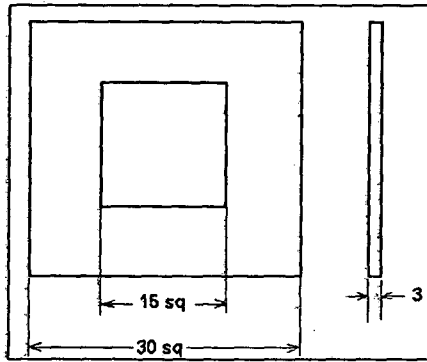

Fig.11
11. Design and give two views of a progressive die to be designed for producing the component shown in Fig.11. The sheet metal is of 3 mm thickness and made of Cold Rolled Steel of Shear strength 500 N/mm²
- i) Determine the press tonnage and the various stations required (3)
- ii) How is center of pressure to be determined for this die layout? (2)
- iii) Design all the parts of the die. (5)
- iv) Draw two fully dimensioned views of the die in engaged position. (8)
- v) Give a neat parts list. (2)